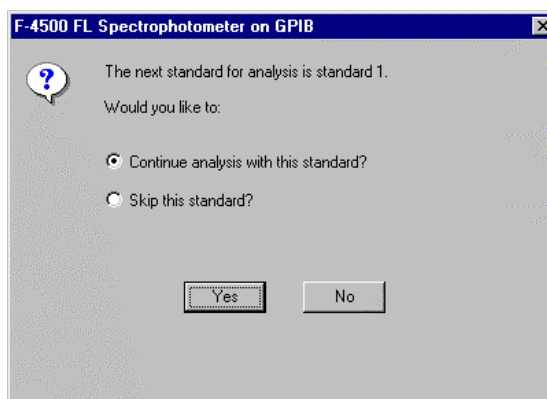

Fig. 8-16 For Start from Calibration Curve Creation
- (1) Select the Measure command from the Spectrophotometer menu in the FL Solutions program or click the  (measurement) button on the toolbar. The window in Fig. 8-16 opens.